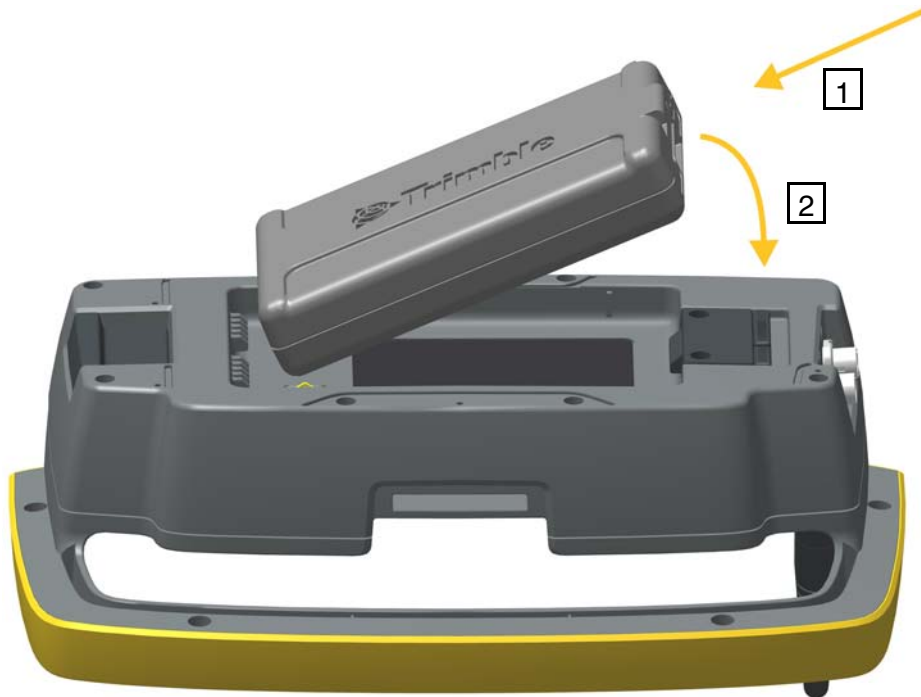

Figure 6.19 Attaching a battery to the Trimble Robotic Holder
1. Fit the battery on to the hooks on the holder (1).
2. Push the battery on to the holder until it clicks into place (2). See Figure 6.19